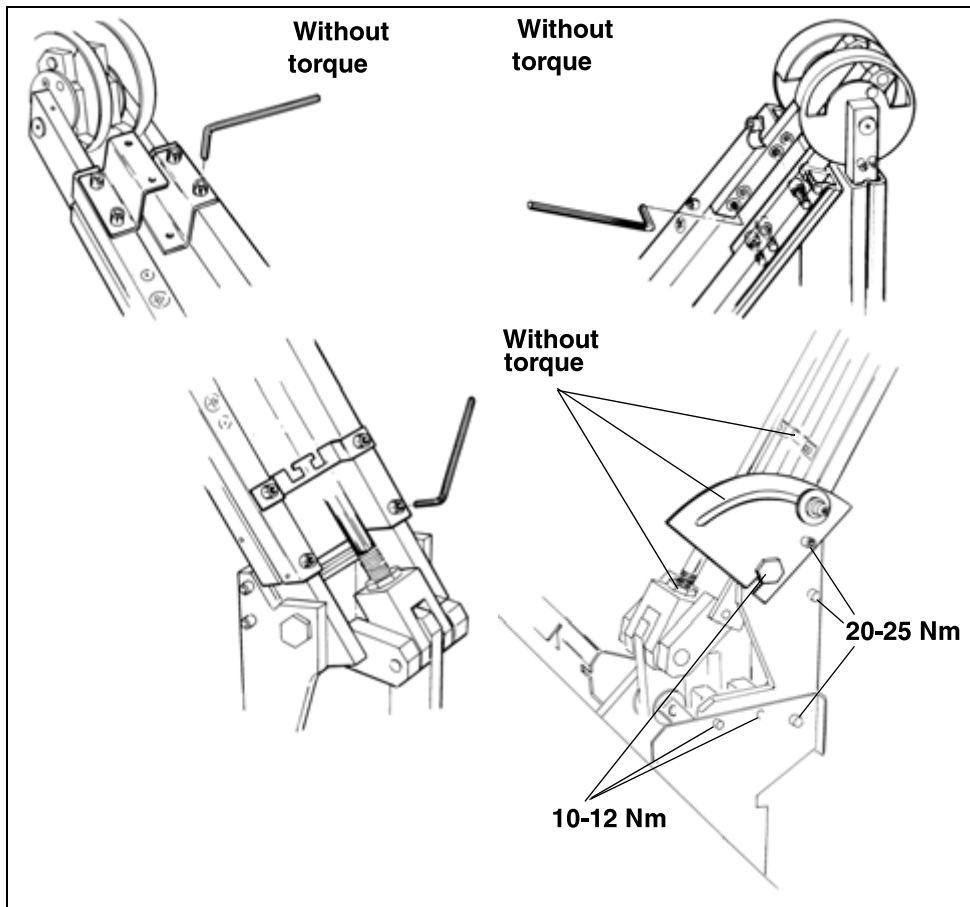

Fig. 10: Arm system attachment
- Check that the screws and lock nuts are seated securely (Fig. 10 / p. 44).